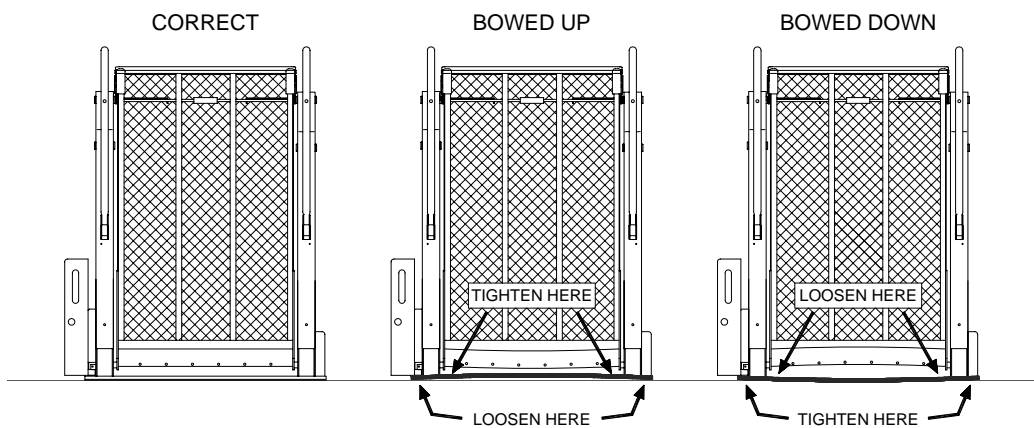

FIGURE 2-1: LIFT MOUNTING EXAMPLES
- Refer to **Figures 2-1** and **2-5**. Improper torquing sequence of baseplate bolts may result in a warped or bowed baseplate, which can cause platform to move erratically.